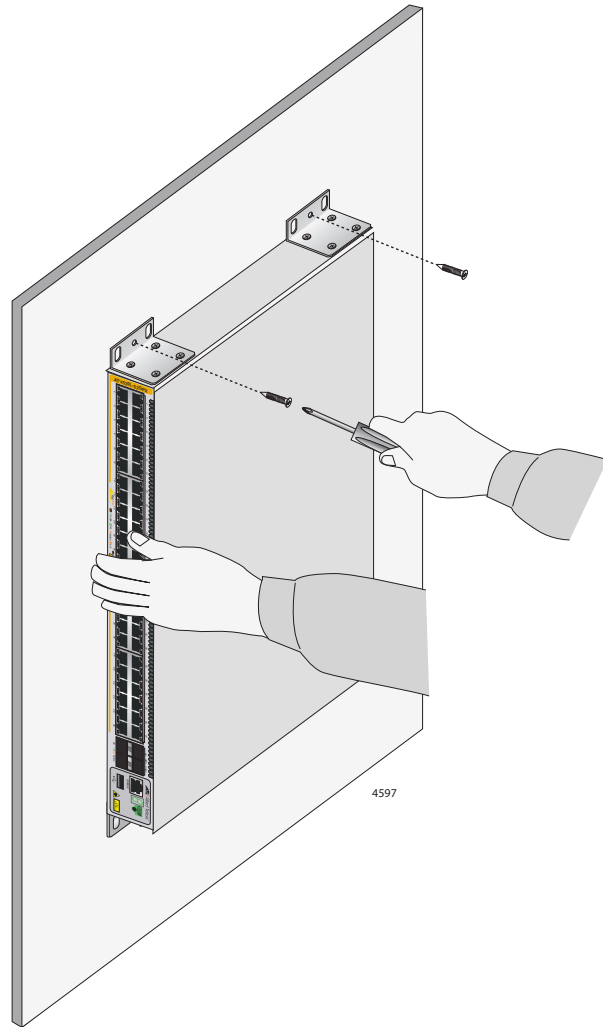

Figure 36. Installing the Switch on a Concrete Wall
7. Have another person hold the switch at the selected wall location while you secure it to the wall with the M4x32mm screws provided. Refer to Figure 36.